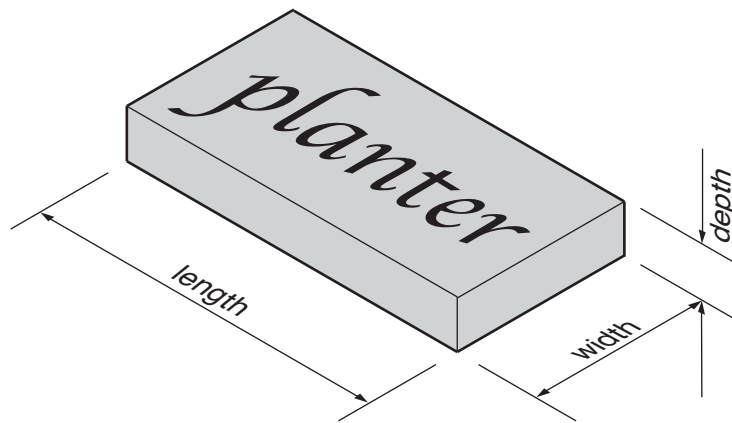

Fig. 11
- (f) Fig. 11 shows the basic shape of a box used to package all the parts of the planter box and stand for delivery to consumers.
Indicate on Fig. 11 a suitable length, width and depth for the box in which **all** the parts will fit. [3]